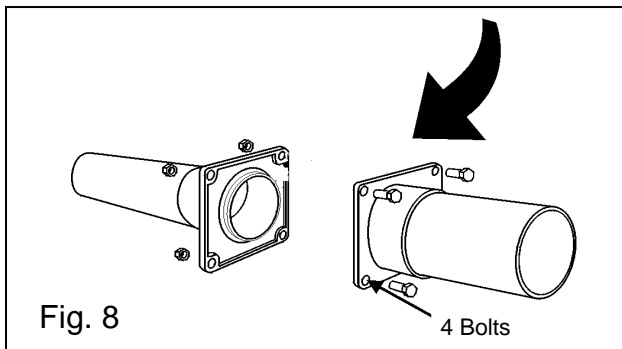

Fig. 8
**Step 9:** Ref **Fig. 8:** Separate pipe flanges and insert Drain Master **with gate closed** making sure the seals are in their correct position **on the flanges.** See Step 7. Rotate the valve to align the four bolt holes with the flange holes and insert the four new bolts and nuts. :